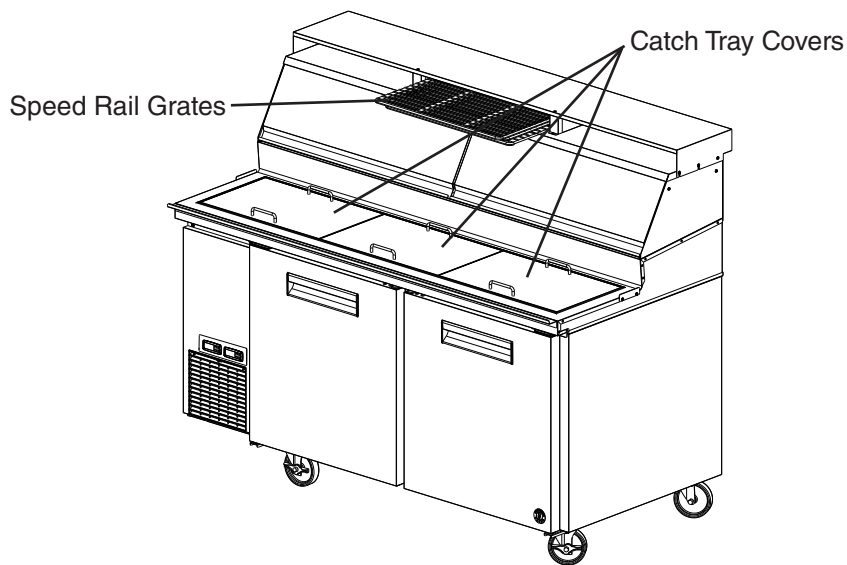

Fig. 9
- 4) Once confirmed, place the catch tray covers in their correct positions. See Fig. 9.